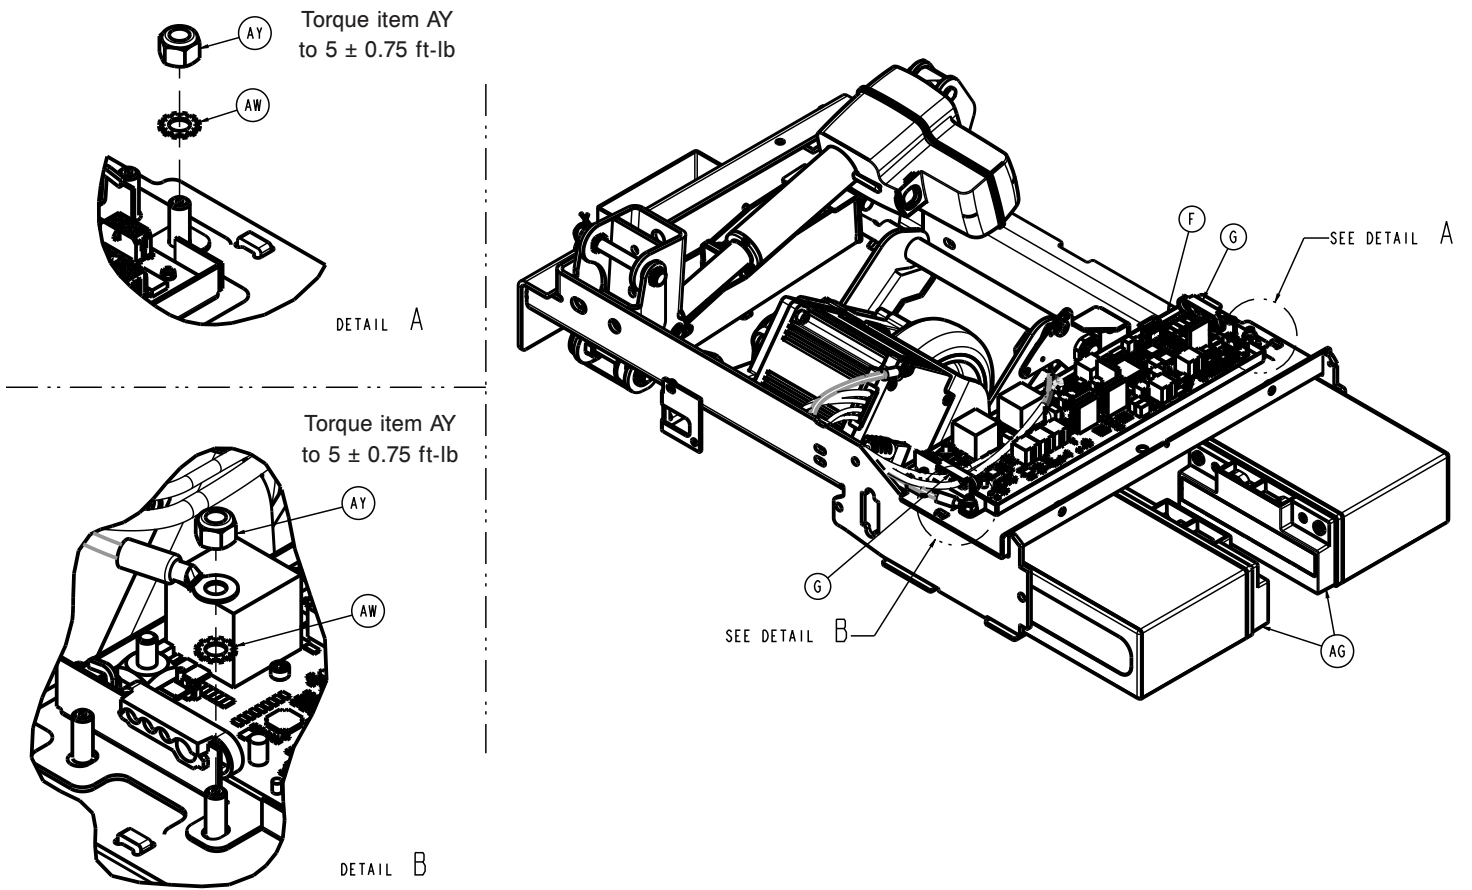

Figure 65 – Removing the batteries
10. Remove the batteries (AG) (Figure 65).
- 16. Unclip the cable retainer (G) (Figure 65).
- 17. Using a ratchet and 7/16” socket, remove the nut (AY) that secures the ground wire to the frame weldment (Figure 65 detail B). Save the nut.
19. Disconnect the motor communication cable from the **Zoom** control (F) (Figure 65).
10. Unclip the cable retainer (G) (Figure 65).
11. Using a ratchet and 7/16" socket, remove the nut (AY) that secures the foot end ground wire to the frame weldment (Figure 65 detail B). Save the nut.
12. Using a ratchet and 7/16" socket, remove the nut (AY) that secures the motor power wires (U, V, W) to the **Zoom** control board (F) and unclip from the cable retainer (G) (Figure 65). Save the nut.
13. Disconnect the motor communication cable from the **Zoom** control board (F) and unclip from the cable retainer (G) (Figure 65).
14. Using a ratchet and 7/16" socket, remove the nut (AY) that secures the head end ground wire to the frame weldment (Figure 65 detail B). Save the nut.